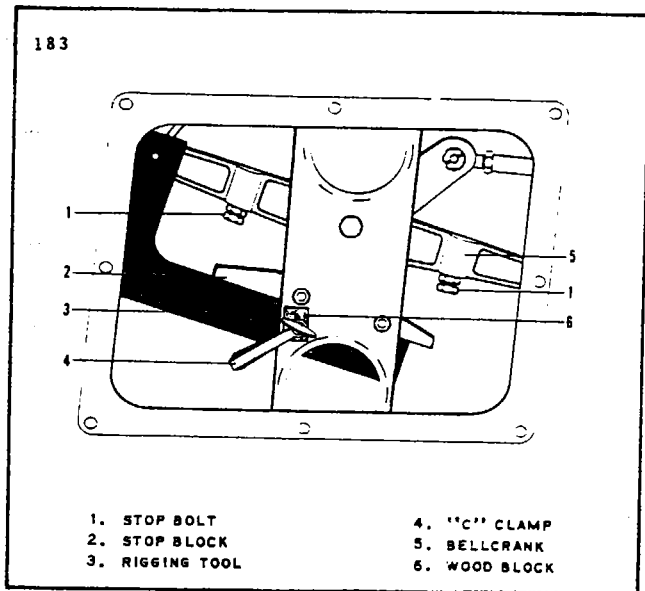

Figure 5-3. Installation of Bellcrank Rigging Tool
- a. To rig the aileron controls, set the right and left aileron bellcranks in neutral position by attaching an aligning tool within both wings as shown in Figure 5-3. (This tool may be fabricated from dimensions given in Figure 5-27.) The tool is used by the following procedure:
2. Remove the cotter pin and nut that secures the forward turnbuckle fork end (SS) to the bellcrank (1 and 24). The bolt should not be removed.
4. Position the tool so that it fits tight against the outboard side of the bellcrank stop block (61).